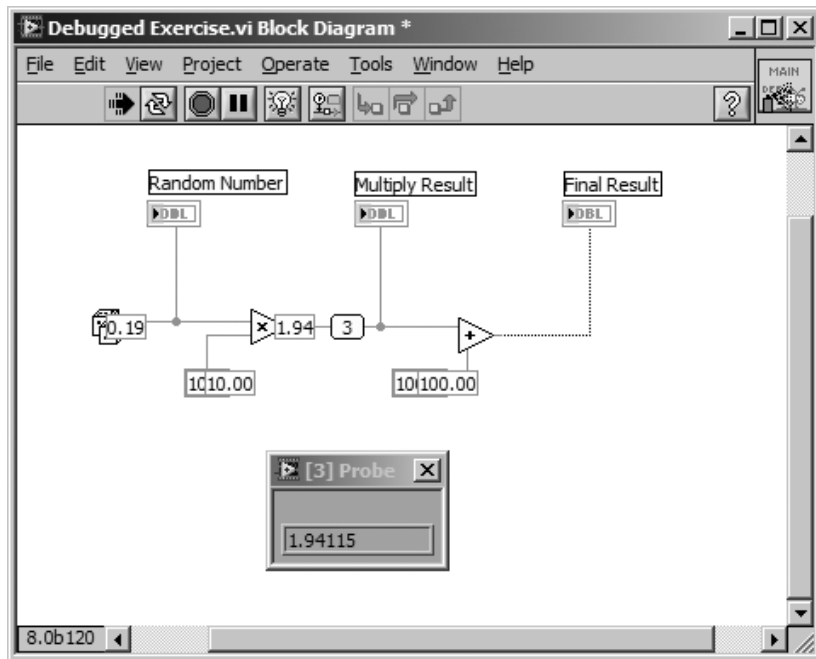

Figure 5.11
10. Step through the VI again and note how the probe displays the data carried by its corresponding wire, as shown in Figure 5.11.